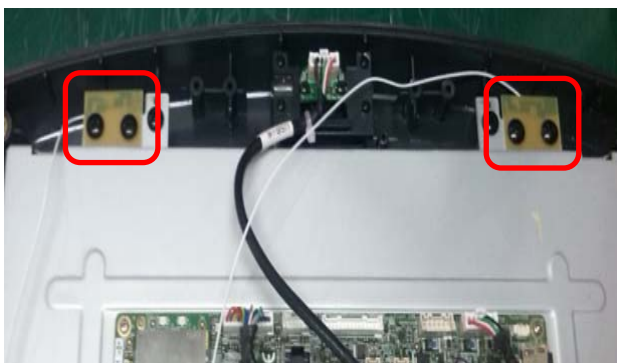

Fig 5
4 .Lock WIFI antennas . refer to the right side photo, use 4 $\Phi 5 \times 12$, "+", umbrella head screw to fix the antenna .(Fig5)
- 5) when the WiFi icon turns to yellow, WiFi setup successful (Fig5)